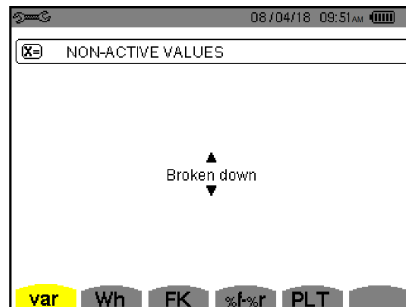

Figure 4-7
1. At the Non-Active Values screen (Figure 4-7), press the **Wh** function button to display the Energy Unit screen.